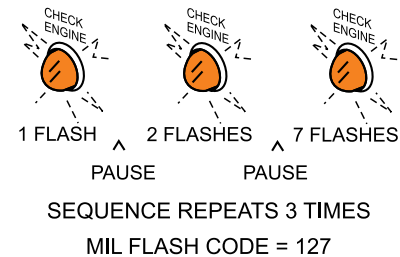

Figure 40. MIL Flash Error Code
- The check engine warning lamp will flash in 3 separate bursts as shown below. This sequence of lamp flashing represents the MIL flash error code (Figure 40). See Table 9 for a complete listing of error codes. In the MAP sensor example, the error code is 127.